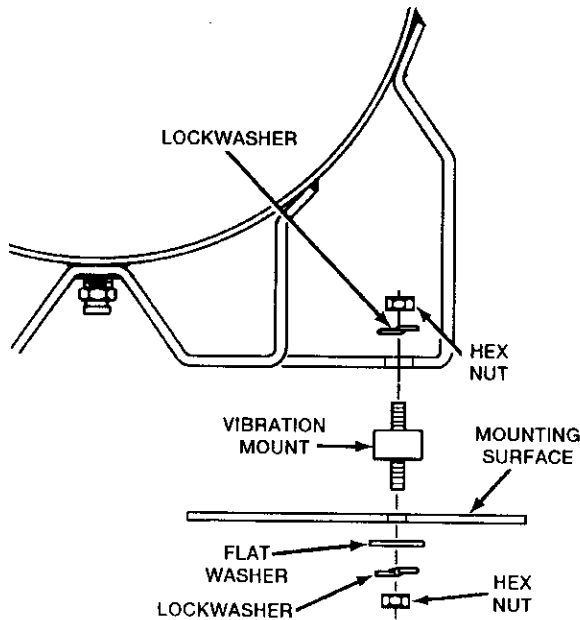

Figure 2
2. Insert the vibration mounts in the mounting holes. Place a flat washer under the mounting surface and secure each mount with a lock washer and nut. See figure 2.